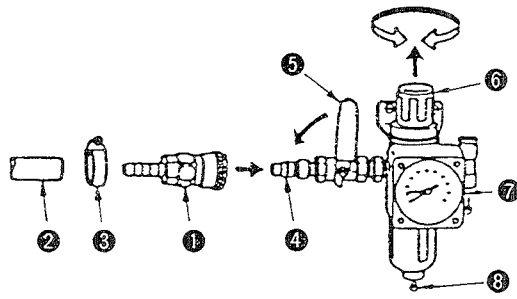
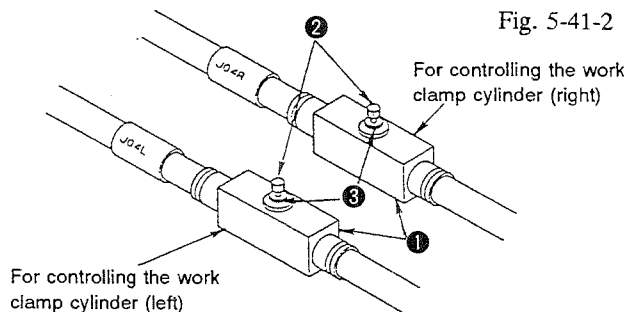
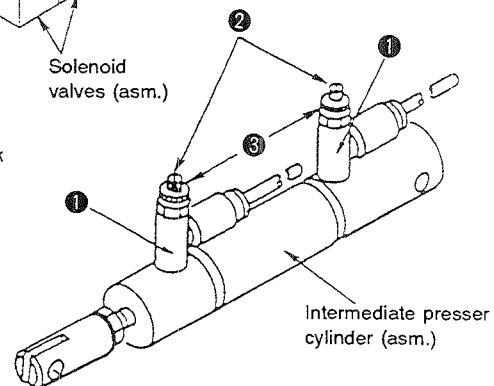

Fig. 5-41-1
Fig. 5-41-3
Fig. 5-41-4
- 1) Connect quick-coupling joint ①, and open air cock ⑤. At this time, air pressure gauge ⑦ should indicate 5 to 5.5 kgf/cm² (0.5 to 0.55 MPa). (Fig. 5041-1)
- 2) If the value indicated on air pressure gauge ⑦ is lower than 4 kgf/cm² (0.4 MPa), error indication **A** will be given, and the machine will stop. (Fig. 5-41-1)
- 4) The needle knob of speed controller (for controlling the work clamp cylinder) is fixed by the nut at the position where the knob is turned in the reverse direction by one revolution after it has been securely tightened. (Fig. 5-41-3)
- 5) The needle knob of speed controller (for controlling the intermediate presser cylinder) is fixed by the nut at the position where the knob is turned in the reverse direction by five revolutions after it has been securely tightened. (Fig. 5-41-4)
<p>1) Connect the air supply hose to quick-coupling joint (female) ① and fix it with cable clip ③.</p> <p>2) Connect female side ① of the quick-coupling joint to male side ④ of the joint.</p> <p>3) Open air cock ⑤, pull it up and then adjust air adjusting knob ⑥ by turning it so that the air pressure gauge ⑦ indicates 5 to 5.5 kgf/cm² (0.5 to 0.55 MPa). Then press the knob to maintain the pressure value.</p> <p>4) If the compressed air pressure is too low, the machine will stop running while indicating error [A] on the panel. * The air pressure will be 0 kgf/cm² if you close air cock ⑤ and push the button ⑧.</p> <p>[Caution] After making the adjustment, set air pressure gauge ⑦ so that it indicates 5 to 5.5 kgf/cm² (0.5 to 0.55 MPa), and make sure that error indication [A] goes out.</p> <p>5) Under the sewing mode, remove the air hose by pressing section ② of pressure reducing valve ① that is fixed on the solenoid valve asm. Connect a commercially available pressure gauge. (Fig. 5-41-2) Treadle the feeding frame switch five times or more. Then turn needle knob ② of pressure reducing valve ①, and adjust the pressure gauge connected so that it indicates 1 to 1.5 kgf/cm² (0.1 to 0.15 MPa). Then fix the knob at that position using nut ③, and connect the air hose which has been removed. (Fig. 5-41-2)</p> <p>6) Adjust needle knob ② of speed controller ①, referring to the "STANDARD ADJUSTMENTS (41)-4." Then fix the knob using nut ③. (Fig. 5-41-3)</p> <p>7) Remove the face plate. Adjust needle knob ② of speed controller ①, referring to the "STANDARD ADJUSTMENTS (41)-4." Then fix the knob using nut ③. (Fig. 5-41-4)</p>	<p>1) The work clamp mechanism and/or intermediate presser mechanism may malfunction. The machine will stop running while showing error indication [A].</p> <p>2) The machine may fail to detect a drop in the pressure of the air source. The machine will stop running while showing error indication [A] if the pressure gauge indicates normal operating air pressure (5 to 5.5 kgf/cm² (0.5 to 0.55 MPa)).</p> <p>3) The appropriate pressing pressure of the work clamp will not be obtained.</p> <p>4) The feeding frame may fail to go up or come down at the appropriate speed. It may move at an excessive speed or at an insufficient speed.</p> <p>5) The intermediate presser may fail to move smoothly. A heavy metal noise may be produced while the intermediate presser is actuated.</p> <p>[Caution] It is unnecessary to carry out Steps 2) through to 5) in the "STANDARD ADJUSTMENTS (41)" as long as the machine is engaged in normal sewing. Note that the needle knobs and nuts described in steps 3) through 4) are coated with oil resistant white paint to show that they have already been properly adjusted. * When setting the air pressure gauge to 0 kgf/cm², be sure to close air cock ⑤, and press button ⑧. (See Fig. 5-41-1)</p>